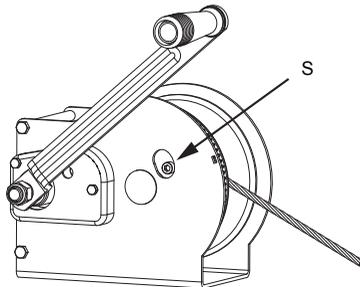

Fig. 7 Safety screw
2. Secure the lifting wire by tightening the safety screw (S). See fig. 7.